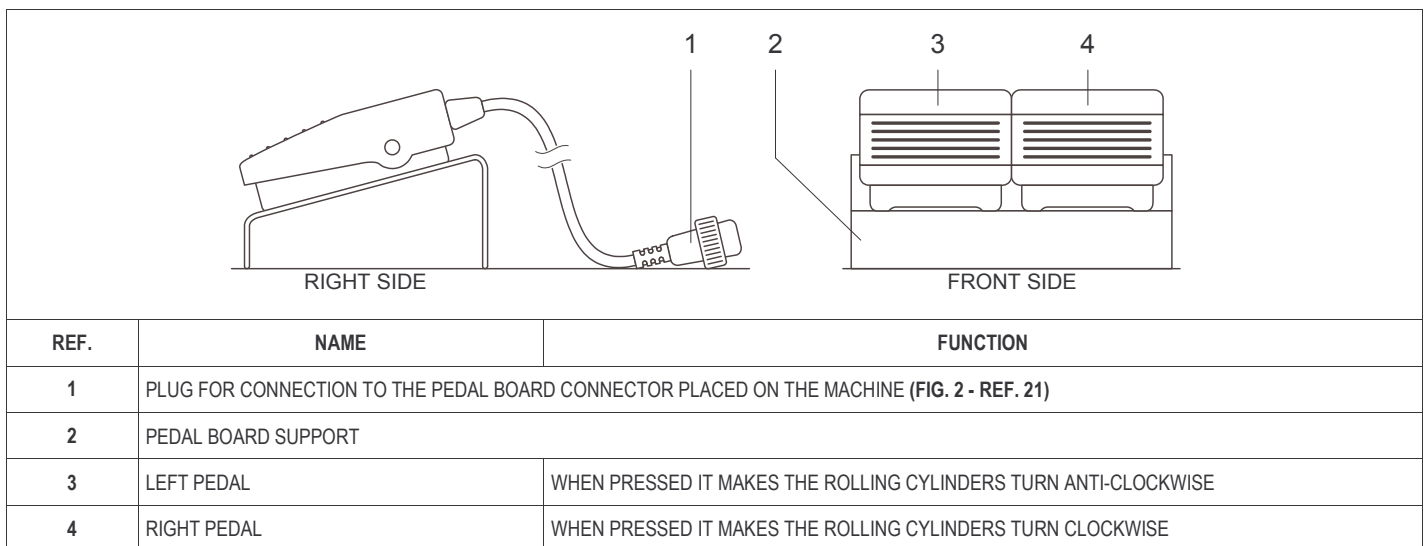

FIG. 10 (Inversion pedal board)
2) *(Only for mod. 2 V)* If necessary, select the processing speed by turning the speed selector to the "1" or "2" pos. (FIG. 10 - Ref. 1);
3) Put the general electric switch in the "1" (ON) pos. (FIG. 10 - Ref. 2);
4) *(Only for mod. VAR 1 PH)* If necessary select the processing speed by using the control panel (see FIG. 10);
6) Adjust the desired dough thickness using the handle (FIG. 10 - Ref. 3);
7) *(Only for mod. 1 V - 2 V - 1 PH)* Start the machine by pressing the "START" button (FIG. 10 - Ref. 6);
8) *(Only for mod. VAR 1 PH)* Start the machine by pressing the "START" button (FIG. 10 - Ref. 11);
9) Choose the movement direction of the conveyor belts using the joystick (FIG. 10 - Ref. 5);
11) Once the desired thickness has been reached (end of cycle), wait for the dough to come completely out of the rolling cylinders (FIG. 2 - Ref. 24) and put the joystick into "0" pos. (FIG. 10 - Ref. 5);
1) Switch the machine off, putting the general electric switch in the "0" (OFF) pos. (FIG. 10 - Ref. 2);
The emergency stop can be carried out by pressing the “**Emergency stop**” button installed on the control panel (FIG. 10 - Ref. 4). In order to prevent dangerous situations happening immediately or being caused, the trained operator must perform the operations shown in TAB. 15.